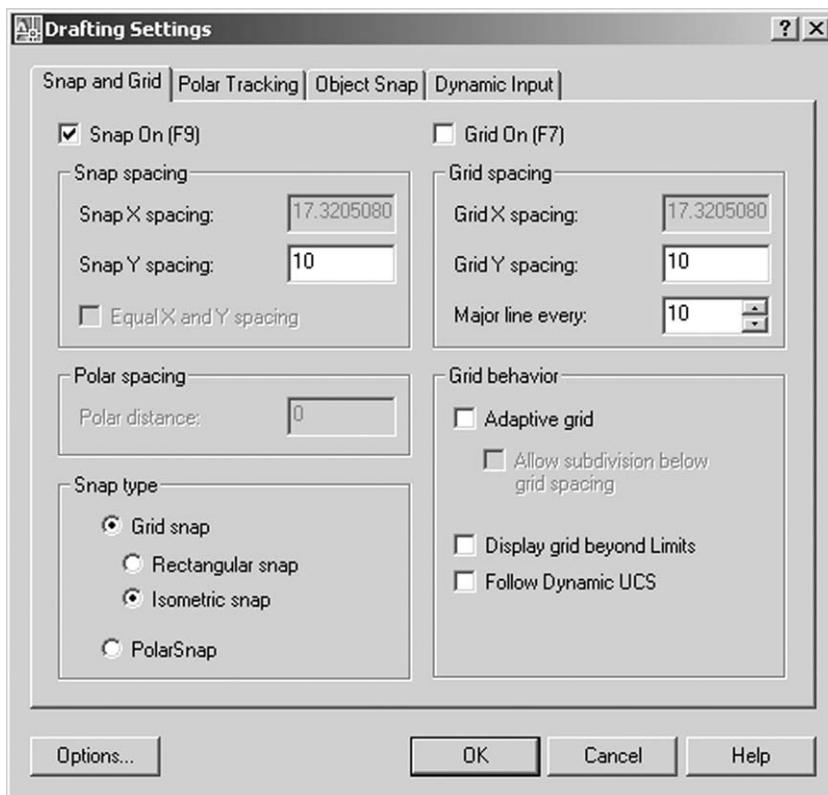

Figure 32.1 The Drafting Settings (Snap and Grid tab) dialogue box to set the Isometric grid.
- h) Grid behaviour: all blank – Figure 32.1